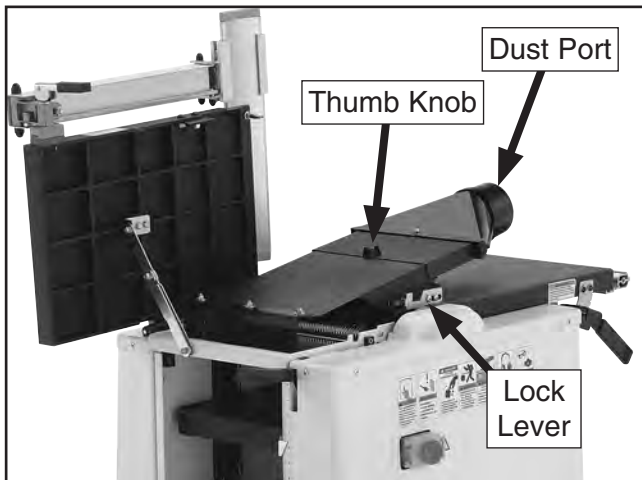

Figure 27. Dust chute secured.
7. Swing the dust chute assembly clockwise over the cutterhead, then push it down onto the infeed table until you hear a "click"—this indicates that the lock lever (**Figure 27**) has secured the infeed table. The lever must engage the infeed table for the planer to operate.
8. Install the dust port onto the dust chute with the thumb knob, as shown in **Figure 27**, then install the dust hose with a hose clamp.